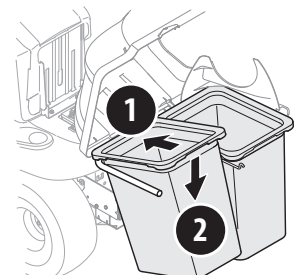

Figure 19
8. Install both bag assemblies (664-05104) onto the hanger assembly rail by inserting the front edge in first (1) and setting the back edge down until it fits into the assembly (2). See Figure 19.